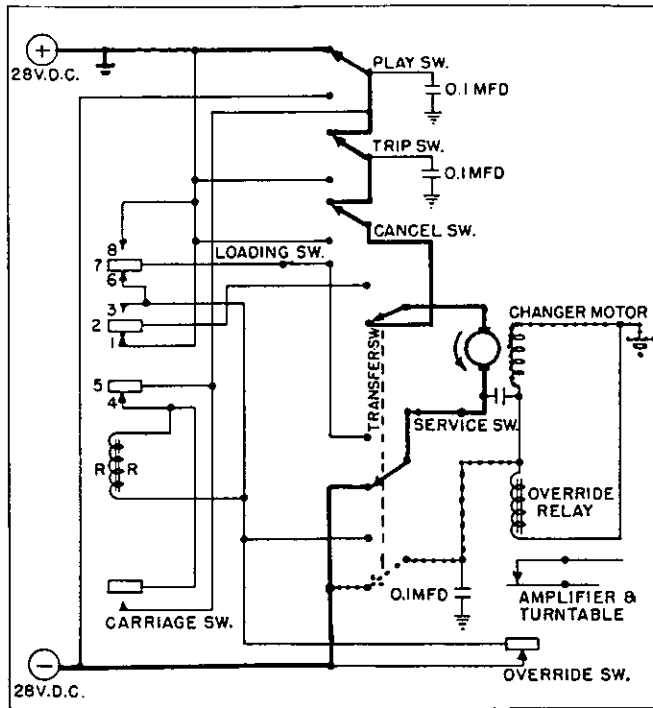

Fig. 61. PHASE 4
d. Phase 4 -- Transfer Switch. (Fig. 61)
An examination of Figure 61 shows the changer motor circuit following the operation of the transfer switch. Although the two motor circuits have been maintained without interruption and in the same polarity as shown in phase 3, the initial switching components have been entirely isolated. The field circuit is shown in dotted line and the armature cir-
As explained above, when the trip switch operates, the record changer motor starts the main cam turning in a counter-clockwise direction. After it has turned a few degrees, the play switch lobe leaves the actuating arm to release the play switch. At this point the play switch is in position to take over the trip switch function as the tone arm swings away from its trip position. With the exception of the reversing relay, the electrical condition is again as shown in Figure 61.